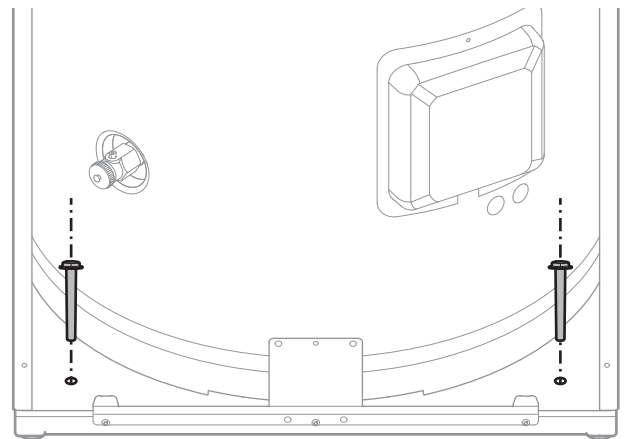

fig. 22 - Floor fixing
- Fix the hydraulic module to the ground (attachment not supplied) (fig. 22).